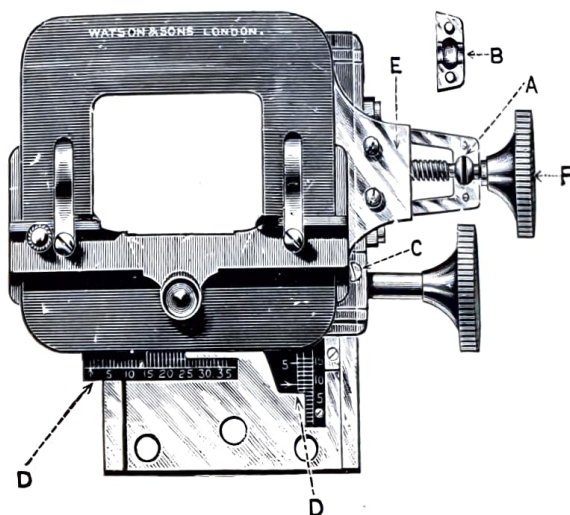

FIG. 18. Surface view of the Watson Standard Stage showing sliding-bar scales and verniers, and method of fitting stationary milled head.
The Stage surface is in full view, Fig. 18, and the manner in which the movements are effected will be plainly seen. The horizontal travel to the Stage is made by the rotation of the **stationary** milled head F, that is, it does not move with the traversing plates of the Stage. The plate E is connected with the long screw operated by the milled head F, and the screw is supported by a slotted collar, which gives adjustment for wear. To give the smoothest possible motion, the screw has a ball fitting (A): in this is a groove, which acts as a receptacle for foreign matter. The little plate B fits over the ball, and is so attached that no internal shake takes place. C is the adjusting screw for regulating the pressure of the pinion upon the rack in the vertical movement of the Stage. The Verniers D, Fig. 18, which can be used for measuring or for "finding" objects, are an extra, costing 30/-. When verniers are supplied it is advantageous to have the sliding bar, as illustrated, at an extra cost of 30/-.